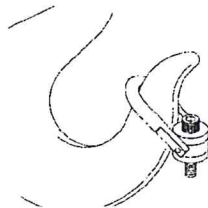

Figure 6
- Attach lifting device ensuring free fit to hoist ring bail (lifting ring). (Fig. 6)